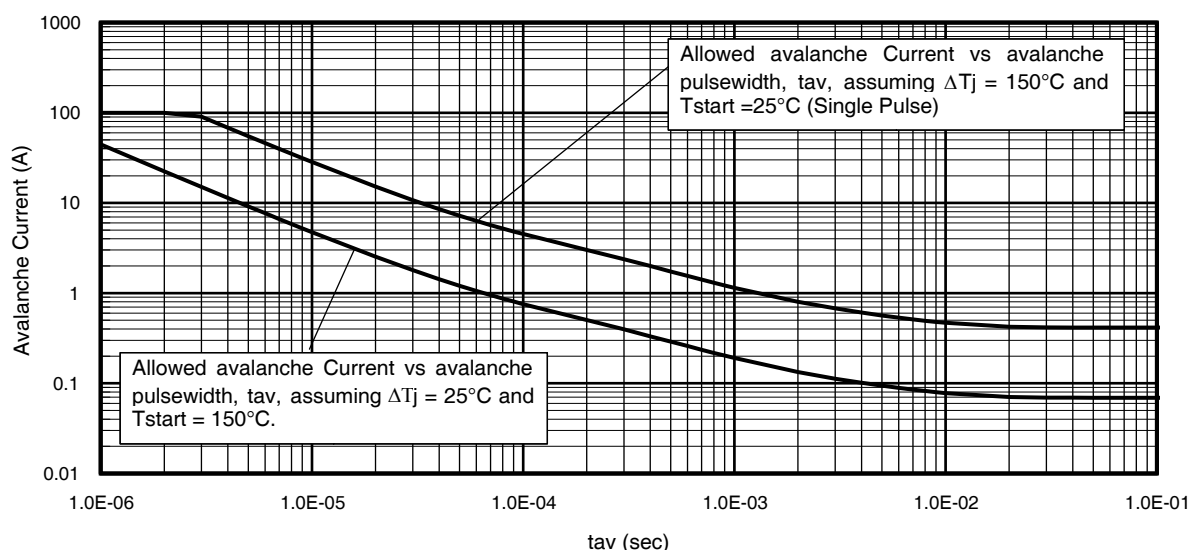

Fig 14. Typical Avalanche Current vs. Pulsewidth
Notes on Repetitive Avalanche Curves , Figures 14, 15:
7. ΔT = Allowable rise in junction temperature, not to exceed T_{jmax} (assumed as 25°C in Figure 14, 15).
$Z_{thJC}(D, t_{av})$ = Transient thermal resistance, see Figures 14)